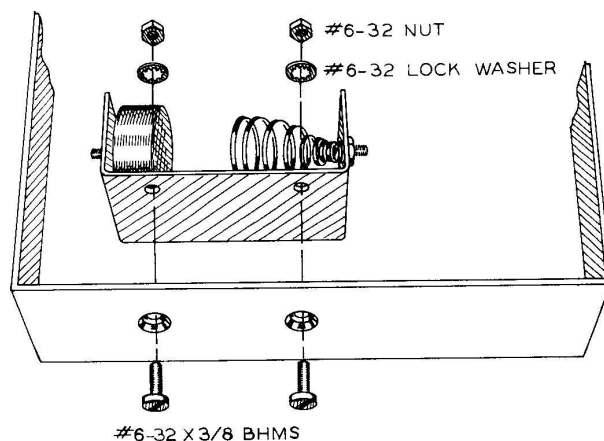

Figure 3-25
- (✓) Mount one of the battery holders behind the meter, using two #6-32 x 3/8" BHMS, lockwashers and nuts, as shown in Figure 3-25.